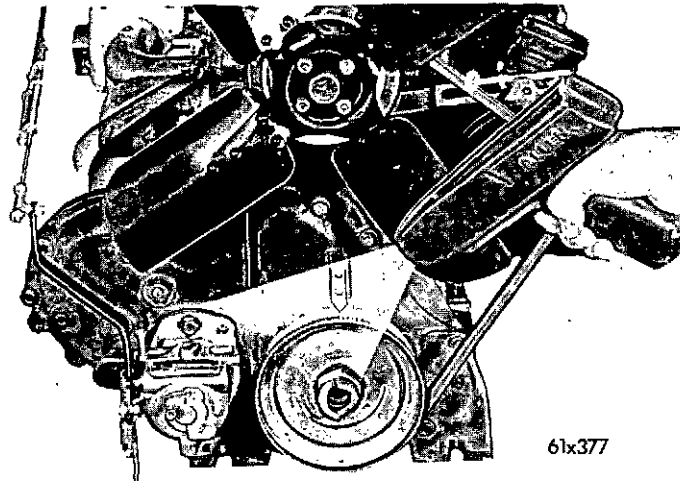

Figure 51 — Checking Timing With Timing Light on Model Ind. 908A
(1) Disconnect the vacuum line at the distributor (on units so equipped).
(2) Connect the secondary lead of the Power Timing Light to the Number 1 spark plug, the red primary lead to the positive terminal of the battery and the black primary lead to the negative battery terminal.
(3) Use chalk to mark the desired degree line ( $2\frac{1}{2}^{\circ}$  BTC) on the vibration damper to provide better visibility when the degree mark lines up with the timing pointer.
(4) Start engine and set idle to 475-500 r.p.m. (Hydraulic clutch control in "off" position, if so equipped).
(5) Using the timing light (Fig. 51) to observe the position of the timing mark on the crankshaft pulley; as the timing mark and pointer are in alignment.